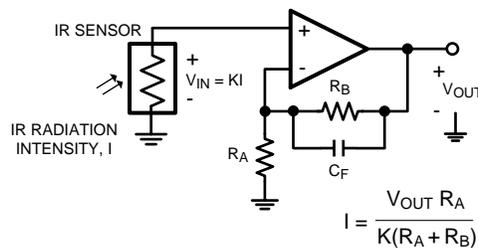

Figure 19. IR Radiation Sensor
The low input bias current and low input referred noise of the LMV796 and LMV797 make them ideal for sensor interfaces. These circuits are required to sense voltages of the order of a few  $\mu\text{V}$  and currents amounting to less than a nA hence, the op amp needs to have low voltage noise and low input bias current. Typical applications include infra-red (IR) thermometry, thermocouple amplifiers and pH electrode buffers. Figure 19 is an example of a typical circuit used for measuring IR radiation intensity, often used for estimating the temperature of an object from a distance. The IR sensor generates a voltage proportional to  $I$ , which is the intensity of the IR radiation falling on it. As shown in Figure 19,  $K$  is the constant of proportionality relating the voltage across the IR sensor ( $V_{IN}$ ) to the radiation intensity,  $I$ . The resistances  $R_A$  and  $R_B$  are selected to provide a high gain to amplify this voltage, while  $C_F$  is added to filter out the high frequency noise.